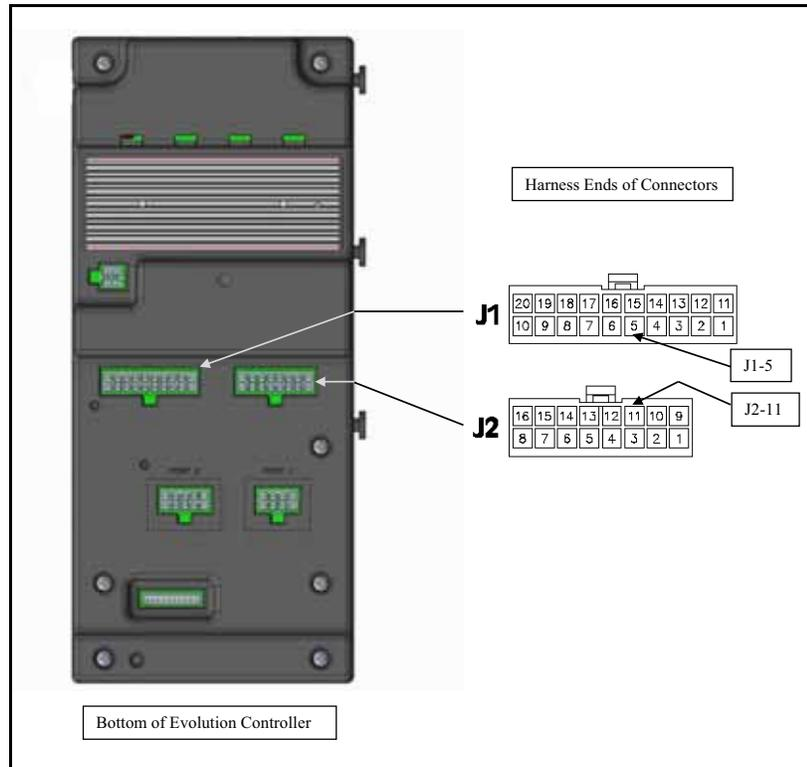

Figure 5. Bottom (underside) of Evolution Controller
1. Bottom (underside) of Evolution Controller for Steps 1-3. Unplug the 20-pin connector (J1) and the 16-pin connector (J2) from the control panel underside by carefully releasing the latch on the side of each connector, Figure 5.
3. Install the J1 and J2 harness connectors back into the J1 and J2 connectors on the back of the control panel. See Figure 5.